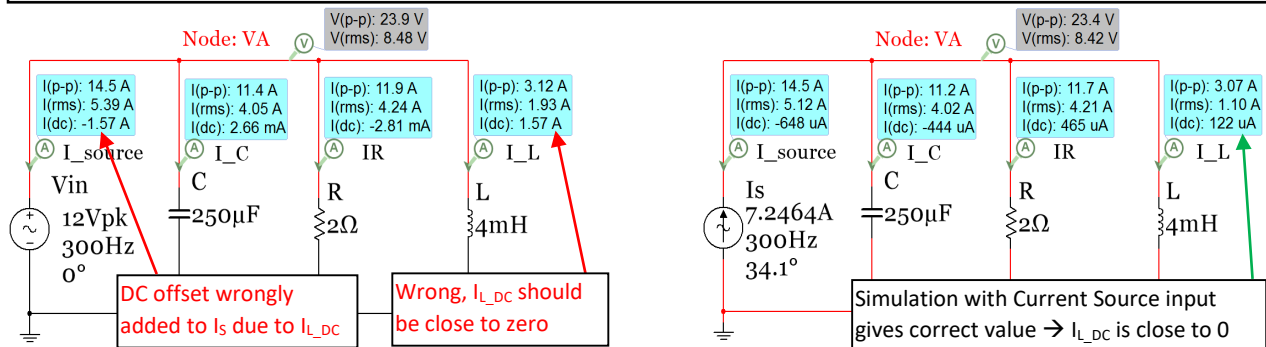
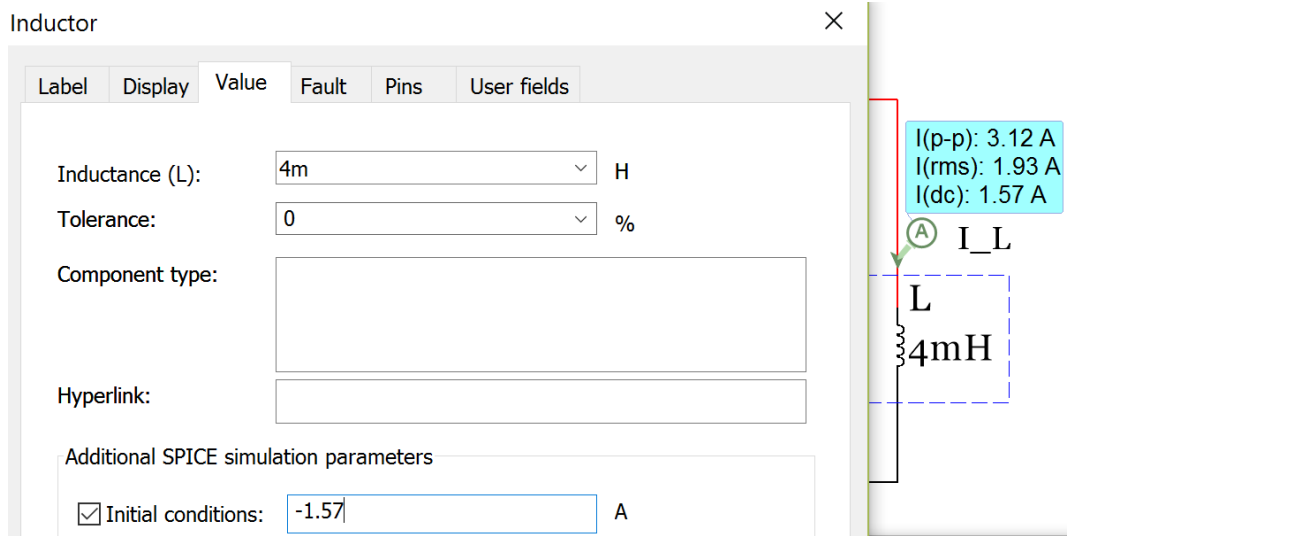
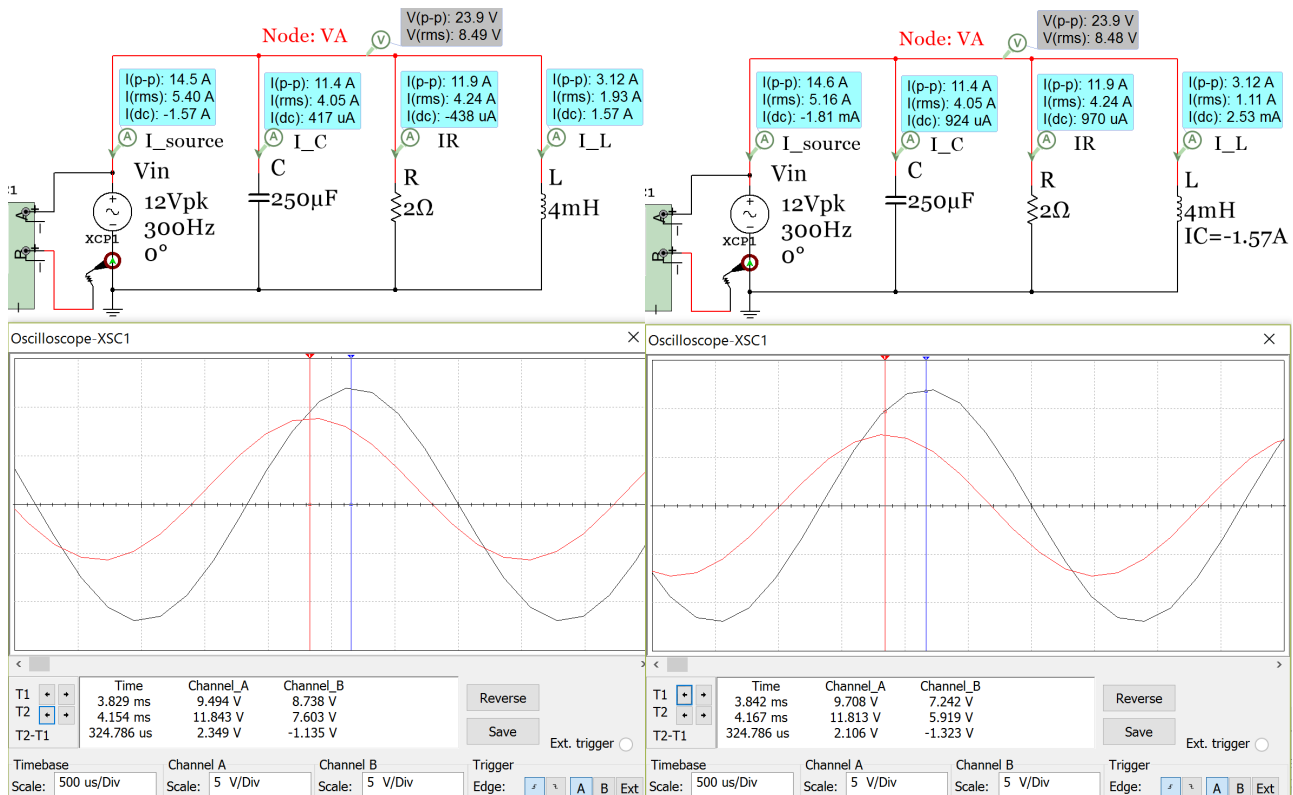

Figure 3.14: Parallel circuit in Example 3.7 with AC Voltage source (Left) and AC Current Source (Right).
Figure 3.15: Inductor dialogue box to enter the DC offset as the initial condition.
Figure 3.16: Parallel RLC circuit from Example 3.7 – Phase Verification in Multisim.
The reason the RMS I_s and I_L don't match the calculations is due to the DC offset that is wrongly included in the simulation as shown in Figure 3.14 (this link gives more info). Here are some options to avoid this error.
- 2) Calculate I_s and use a current source instead of a voltage source. There is no DC offset in Figure 3.14.
All of the voltages and currents have been calculated above and the magnitudes were verified in Multisim. To verify the phase the oscilloscope is needed. To remove the DC offset of the inductor, method 3 described in Figure 3.14 will be used. Figure 3.15 shows the dialog that comes up when you double click on the inductor. Since the DC offset was measured to be 1.57A, a value of -1.57A is entered into the initial condition box to correct for the DC offset. Figure 3.16 (Left) shows the plot of V_{in} and I_S for the initial circuit without modifying the initial condition of the inductor. Due the DC offset the peak value of I_S is measured to be 8.738 A which is about 1.5 A higher than the calculated value of I_{S_pk} (7.2464 A). In the right plot of Figure 3.16 the initial condition of the inductor is included and the DC offset is removed from both I_L and I_S .
The time shift, t_s , in Figure 3.16 is measured to be -0.324786 ms (t_s is negative because its sinusoidal cycle starts before V_{in}). The phase of I_s is calculated below and matches the calculated value (**34.1°**) fairly closely.
- Even though the ELI the ICE man mnemonic doesn't apply to parallel circuits it DOES apply once the total impedance is determined and you want to compare the source current to the input voltage. In this example I_s LEADS V_{in} (ICE) because the total impedance phase angle is in quadrant IV (-34.1°). This is verified in Figure 3.16.